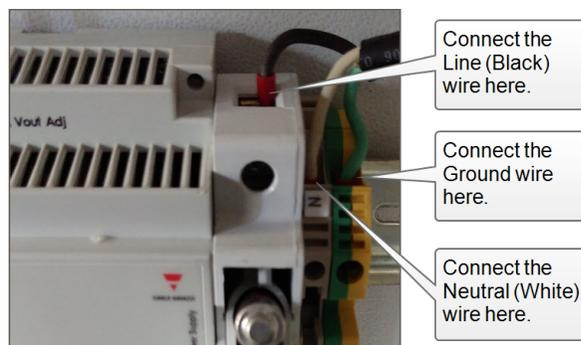

Figure 6: Close-up view of AC power connectors
2. Connect the Ground wires to the GREEN/YELLOW terminal (see *Figure 6: on the next page*).